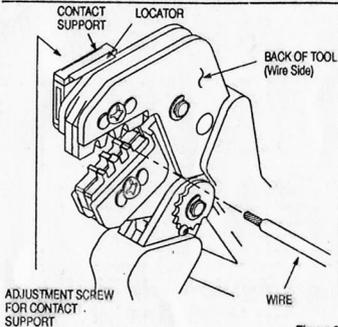

Figure 3
4. Align the contact in the tool so that the 'Locator' sits in the slot separating the crimp zone from the contact box zone of the contact. Refer to the Pro-Crimper instruction sheet 408–9819, Figure 3. Close the tool 3 or 4 clicks of the ratchet until the contact is held securely. fully cycle the tool.
4. CONTACT SUPPORT ADJUSTMENT (Figure 3)
Refer to the table in Figure 1 and select wire of the specified size and insulation diameter. Strip the wire to the length indicated in Figure 1, taking care not to nick or cut wire strands. Select an applicable contact and identify the appropriate crimp section according to the wire size markings on the tool. Refer to Figure 3 and proceed as follows:
3. Position the contact so that the mating end of the contact is on the locator side of the tool, and so that the open "U" of the wire and insulation barrels must face the top of the tool. Place the contact up into the nest so that the movable locator drops into the slot in the contact. Refer to Figure 3. Butt the front end of the wire barrel against the movable locator.
5. Insert stripped wire into contact and wire barrels until it is butted against the wire stop, as shown in Figure 3.
NOTE 3: The crimped contact may stick in the crimping area, but the contact can be easily removed by pushing downward on the top of the locator (see Figure 3).